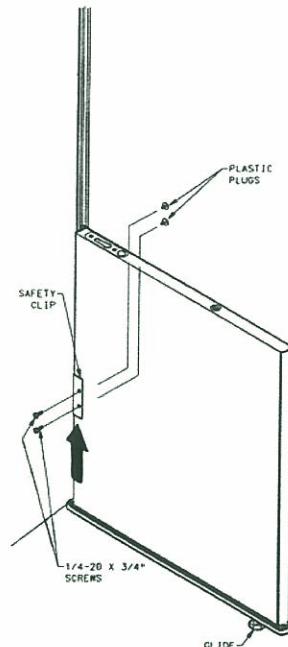

Figure 12
2. Install safety clip into wall strip so that top of safety clip is approximately 14.5" from the floor. Safety clips must be installed into the same wall strip, far left, as the end panel. **See Figure 12.**
3. Install work surface support panel to wall strip so that the top of the support panel is approximately 28.5" from the floor. Insert hanger bracket teeth into the same wall strip. Push down to make sure bracket completely engages hanger frame. **See Figure 12.**
5. Slide safety clip up to align holes in clip with holes in support panel. Insert (2) 1/4-20 x 3/4" screws and tighten screws. **See Figure 12.**
6. Install (2) plastic plugs provided into (2) holes opposite of safety clip. **See Figure 12**